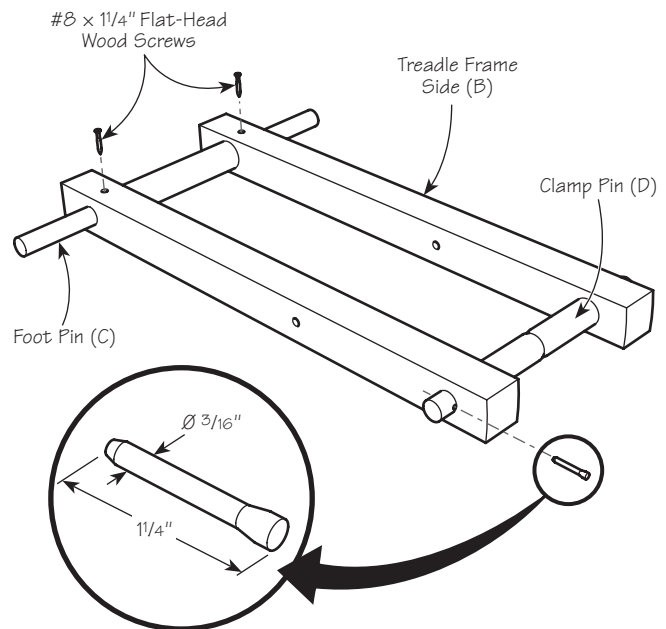

Figure 3: Treadle frame assembly.
8. Assemble the treadle frame. Fit and clamp the treadle components together. Drill and countersink the frame sides for #8 × 1¹/₄" flat-head screws, where shown in **Figure 3**, to intersect the foot pin and hold it in place. Drill a ³/₁₆" hole through the clamp pin at each end, as shown in **Figure 3**. Avoid marring the outer faces of the treadle frame sides. Make and install two tapered wooden pins as shown. A light tap with a block of wood or small hammer should be all that is needed to set them in place and also to remove them.